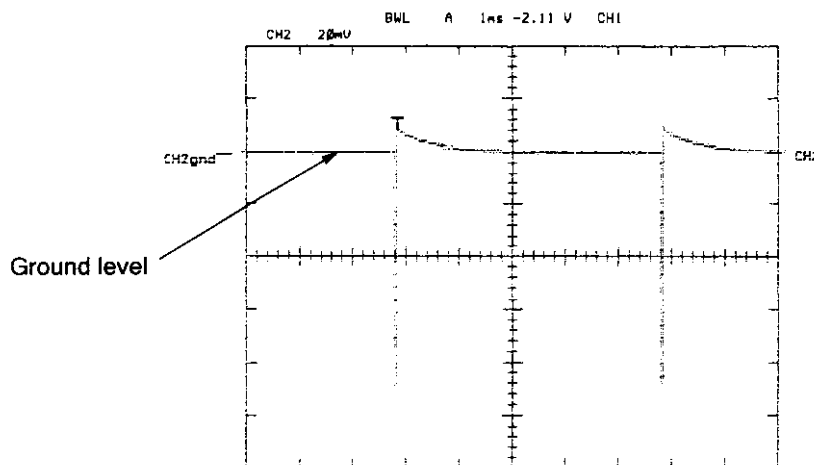

Figure 44. Sever Voltage Ground Level Positioning
- i. Adjust the oscilloscope horizontal time to display at least two complete waveforms (see Figure 44).